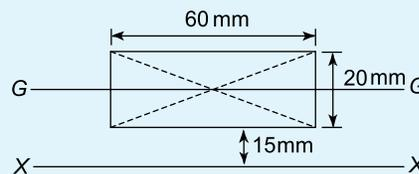

Figure 8.41
2. The second moment of area about axis  $GG$  of the rectangle shown in Figure 8.41 is:
3. The second moment of area about axis  $XX$  of the rectangle shown in Figure 8.41 is:
4. The radius of gyration about axis  $GG$  of the rectangle shown in Figure 8.41 is:
5. The radius of gyration about axis  $XX$  of the rectangle shown in Figure 8.41 is: